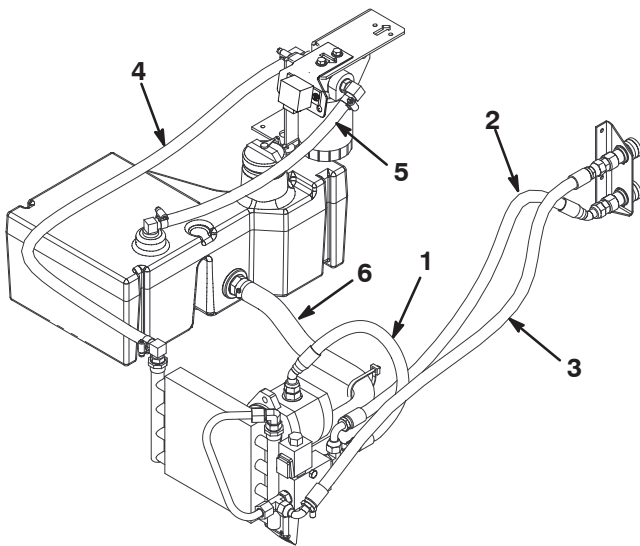

Figure 17
51. Connect the hose (Part No. 92–2406) to the fitting on the top of the pump and to the tee fitting on the rear of the valve (Fig. 17).
52. Mount the hose (Part No. 105–4192) from the rear of the valve tee fitting to the bottom coupler (Fig. 17).
53. Mount the hose (Part No. 105–4193) from the valve tee fitting on front of the valve to the top coupler (Fig. 17).
54. Connect the hose (Part No. 105–7950) to the cooler and the filter with hose clamps (Fig. 17).
55. Connect the hose (Part No. 105–7951) to the filter and the tank with hose clamps (Fig. 17).
56. Install the suction hose (Part No. 105–7955) to the tank and pump with hose clamps (Fig. 17).